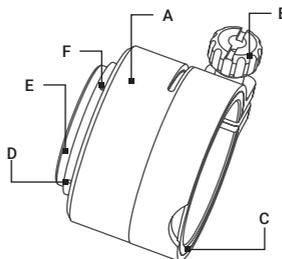

FIGURE 2-7. SCOPE MOUNTING SYSTEM
Install the Anaconda on the lens of a day scope as follows (refer to Figure 2-7):
3. Using a screwdriver, remove the M2×2.5 screws (F, see Figure 2-7) and then unscrew the ring (E).
To loosen the ring (E, Figure 2-7), use the two auxiliary non-threaded holes (D). DO NOT USE the threaded ones.
4. Using a lathe or other precision cutting tool, cut the inside face of the ring (E, Figure 2-7). The value of cuts (in millimeters) should be equal to the value of the turning angle (in angular degrees) divided by  $360^\circ$ .
5. Screw the ring (E) into the SMS's body with its cut end directed inwards. Tighten the screw.
6. After applying a small amount of thread lock to the threads, affix the ring (E) using the two M2×2.5 screws (F).